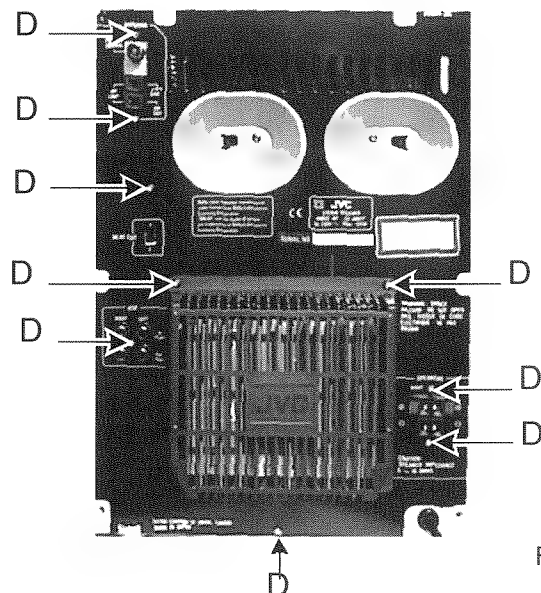

Fig.5
- 1.Remove 9 screws(D)fastening rear side and remove the heat sink cover(Fig. 5).